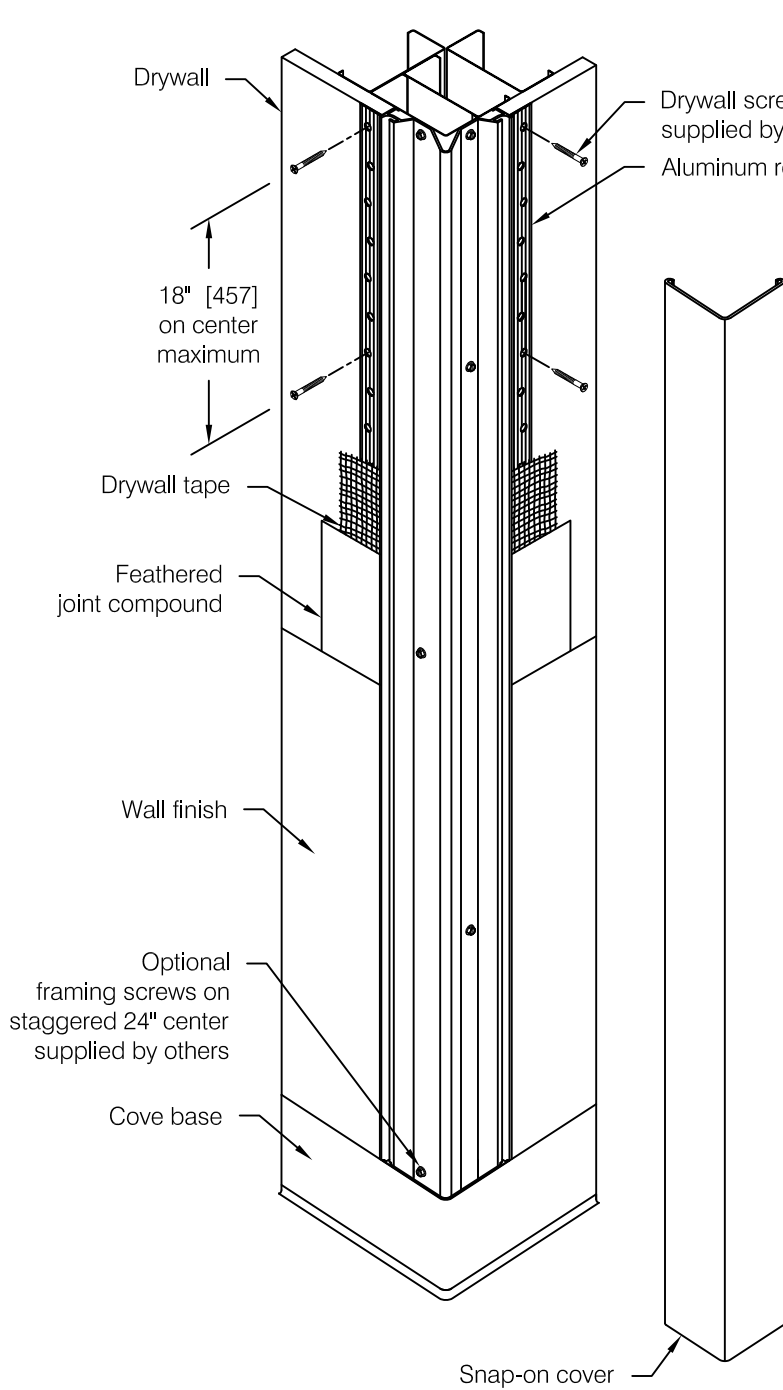
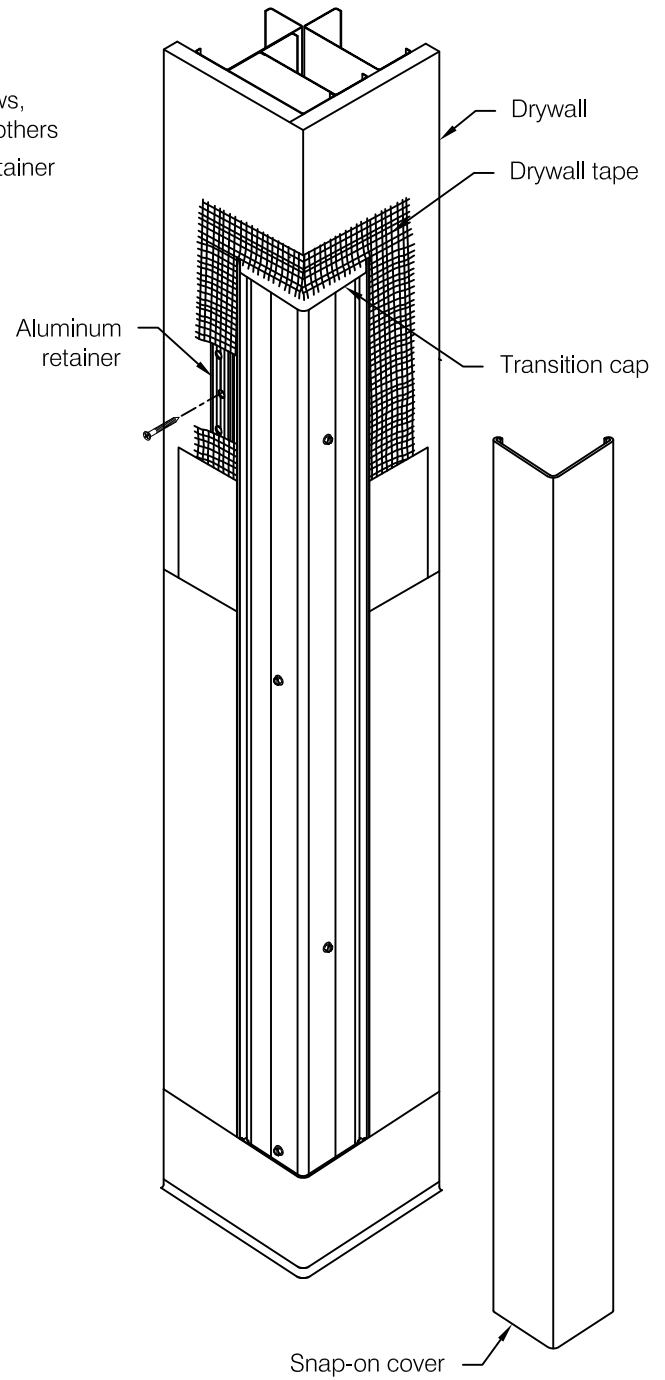
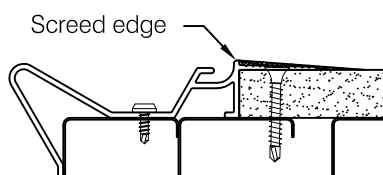

fig 1
fig 2
fig 3
**Step 1:** This series of corner guards is available for full height (**fig 1**) and partial height (**fig 2**) installations. Either application is available with an optional cove base insert for use with customer supplied flexible cove base. Partial height installations require an aluminum transition cap which provides a surface for drywall tape at the finished height of the corner guard.
**Step 2:** Standard flush mount corner guards are designed for use with 5/8" (16) drywall which must terminate a specific distance (*Setback*) from the finished corner. See **Cutting Adjustment Diagrams and Schedule** for drywall setback dimensions. The outermost layer of 5/8" (16) drywall must be cut to the setback dimension from the finished floor to the full length of the aluminum retainer. Any drywall above the retainer, and any additional inner layer of drywall, should be finished to the corner. Using a sample section of retainer to ensure accuracy of the setback during drywall installation is recommended.
*Note:* The aluminum retainer is factory cut to length. For partial height installation the aluminum retainer is 1" (25) longer than the specified *Finished Height* in order to accommodate the aluminum transition cap, see **fig 2**.
**Step 4:** Mount aluminum retainer with mechanical fasteners as shown in **fig 1** and **fig 2**. The outermost edge of the aluminum retainer is perforated for use with bugle head drywall screws. Install screws at 18" (457) maximum centerline spacing. Use caution to avoid damage to the retainer from over tightening.
- Metal Studs : #6 x 1 5/8" (41) Bugle head drywall screw, fine thread
- Wood Studs : #6 x 1 5/8" (41) Bugle head drywall screw, coarse thread
*Note:* Fasteners listed are for installation with standard single or double layer 5/8" (16) drywall. Fasteners 1 1/4" in length are suitable for single layer applications. Additional fasteners closer to the corner may be used in conjunction with standard edge fastening to provide added stability to the installation (see **fig 1** and **fig 2** for location and spacing). These should be drill point bugle head or pan head style fasteners.
**Step 5:** Apply 2" (51) joint tape to cover perforated aluminum edge and to span joint between aluminum retainer and drywall, see **fig 1**. Apply joint tape to transition cap on partial height installations, see **fig 2**. Feather with joint compound using standard industry practices. The aluminum retainer provides a screed edge for joint compound, see **fig 3**.